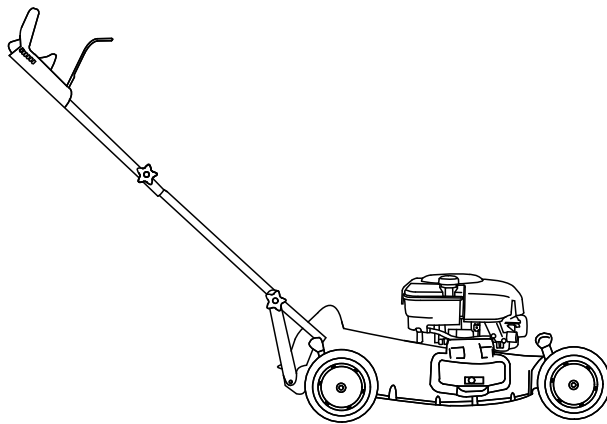

Figure 6
4. Rotate the handle rearward (Figure 6).